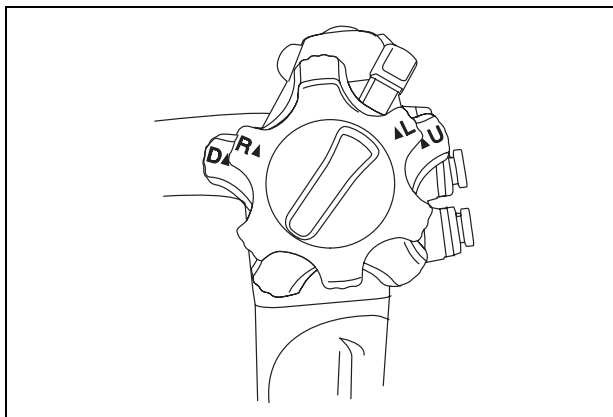

Figure 3.6
3. When the UP/DOWN and RIGHT/LEFT angulation control knobs are turned to their respective neutral positions as shown in Figure 3.6, confirm that the bending section returns smoothly to an approximately straight condition (except GIF-N260).